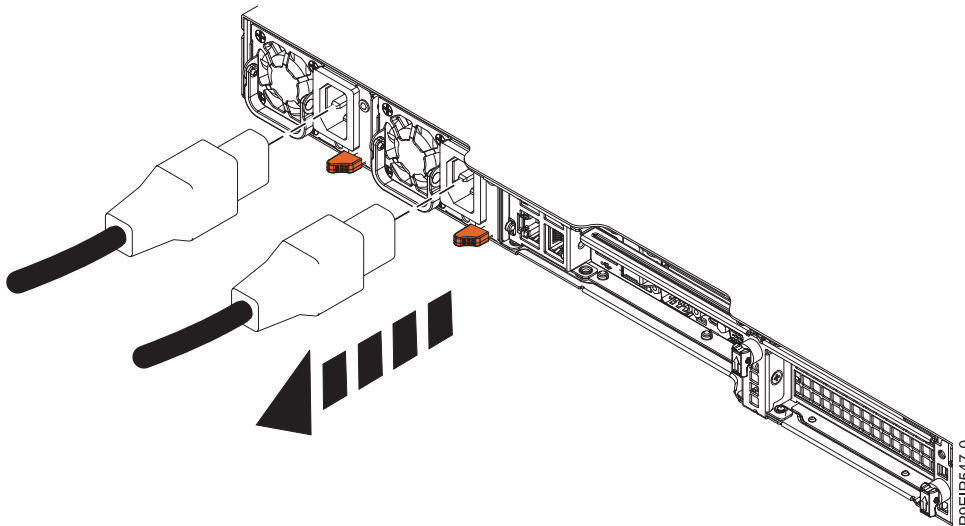

Figure 93. Removing the power cords from the system
2. Label and disconnect the power cords from the system unit as shown in Figure 93.